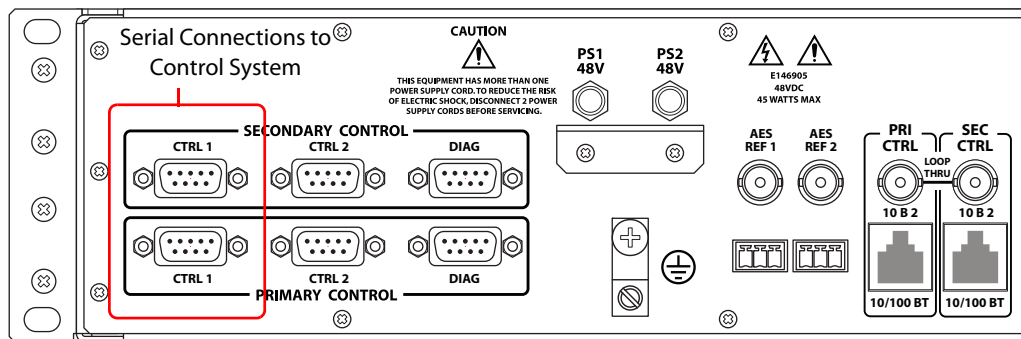

Fig. 2-3: Serial Control Connections (Rear View)
- 1 Locate the serial control connections on the rear of the router, as shown in Figure 2-3. Serial control connections are labeled 'PRIMARY CONTROL' for the primary control card and 'SECONDARY CONTROL' for the secondary control card.